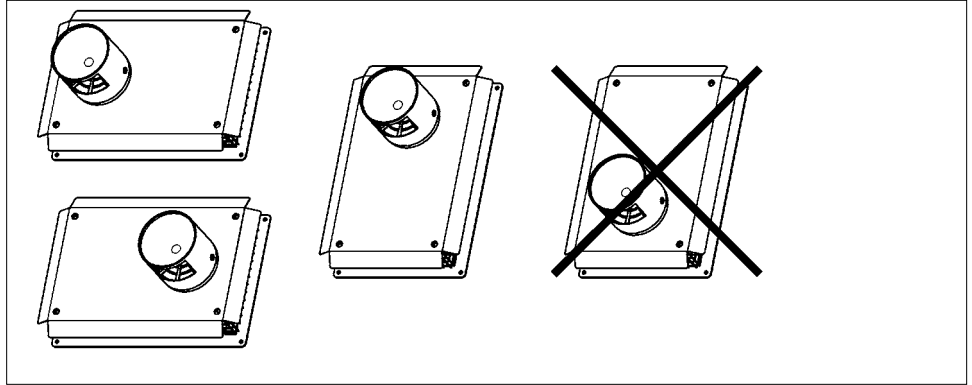

Figure 15: Allowed SST installation orientations
- The SST shall only be installed with the vent and intake pipes horizontally beside each other or vertically with the vent pipe on top *as shown in Figure 15*. The vent pipe cannot be installed below the intake. The vent cap must be installed with the openings directed up and down, *as shown in Figure 15*, and not side to side.